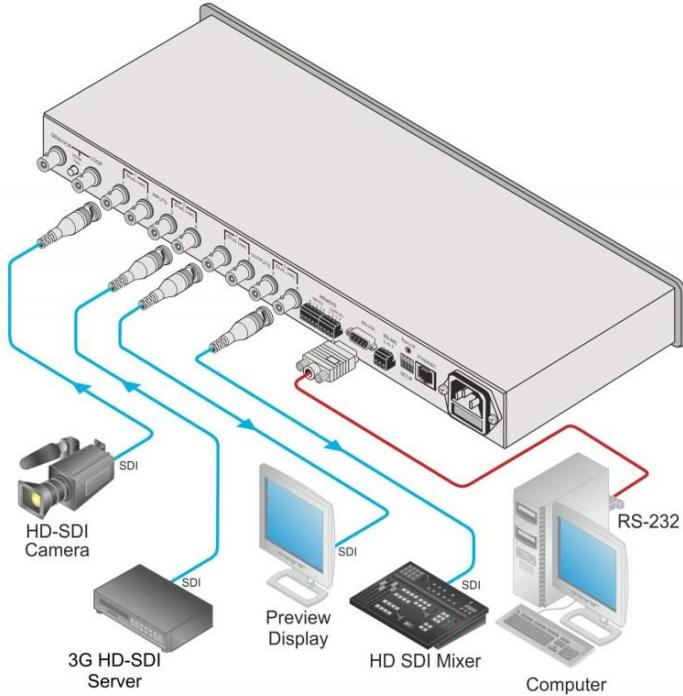

Figure 3: Connecting the VS-44HDxI 3G HD/SD-SDI 4x4 Matrix Switcher
You can use your **VS-44HDxI** to switch any of the four SDI inputs to any or all of the four SDI outputs, as illustrated in Figure 3.
Not illustrated in Figure 3.
4. If required, connect (not shown in Figure 3):